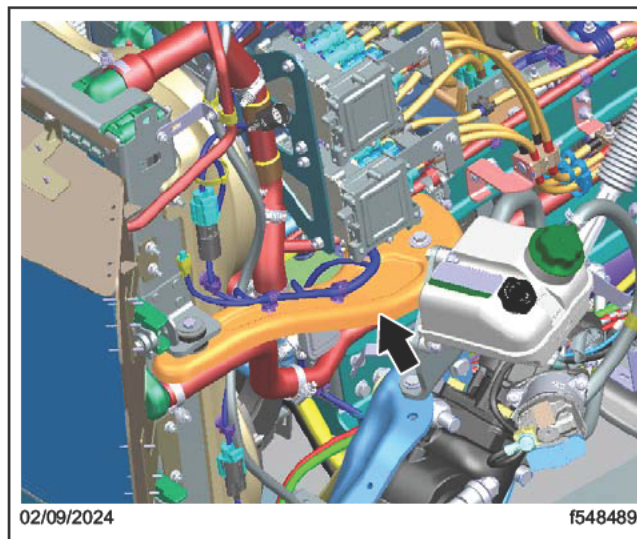

Fig. 11, Left-Hand Side Radiator Support
35. Remove the left-hand side radiator support and fasteners to get access to cut the vent line. See Fig. 11.